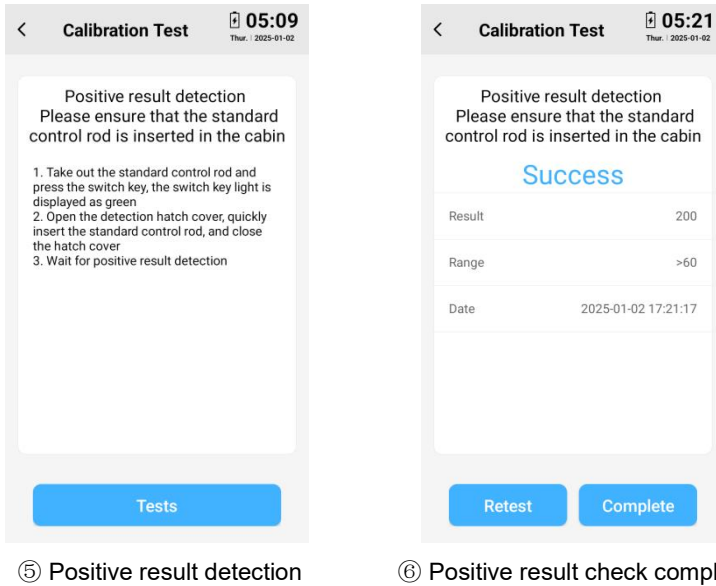

Figure 4.10-3 Calibration check process
First of all, click "Calibration Test" button to enter the internal Led testing interface (as shown in Figure 4.10-3-①).
When the test chamber is empty, click "Run Test" and the instrument will start automatic test. After the test is completed, it will indicate success, as shown in Figure 4.10-3-②.
If you need to check again, click "Retest" and the device will automatically check again. If there is no need to re-test, click "Next Step" directly to proceed to the next test. Figure 4.10-3-③, 4.10-3-④, 4.10-3-⑤, 4.10-3-⑥ shows the negative result test and positive result test screens. You can perform operations as prompted.